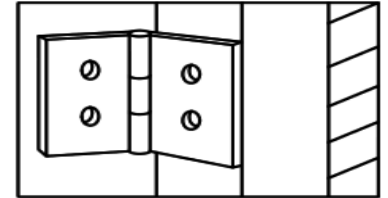

Fig. 1
- 3 - Open the hinges and align them flush against the edge of the receiving panel. See figure 1.